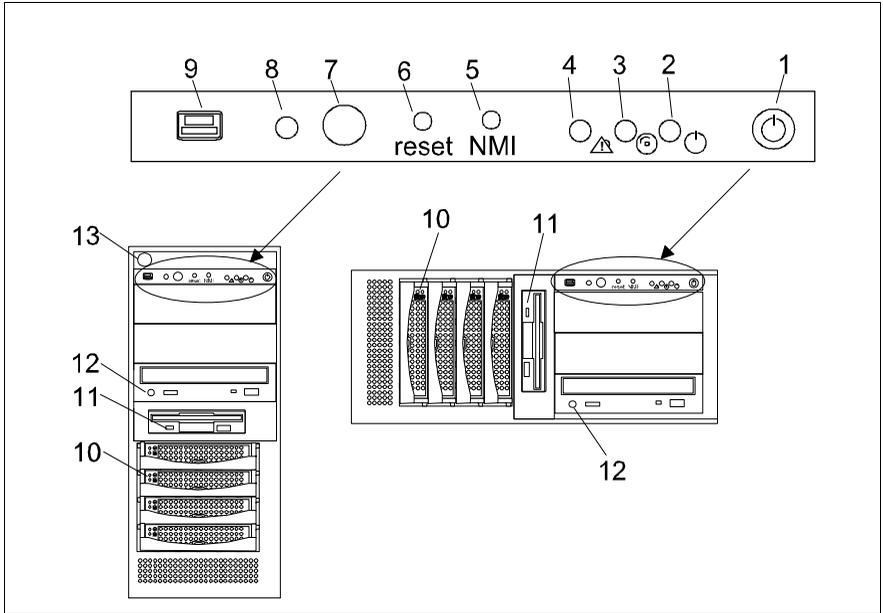

Figure 27: The front
You can find an additional USB port on the front of the server (see figure 27 on page 55).
The power-on indicator (position 2 on figure 27 on page 55) lights orange (standby mode).
- ▶ Press the ON/OFF button (position 1 in figure 27 on page 55).
Power-on indicator (position 2 on figure 27 on page 55) lights green.
- ▶ Press the ON/OFF button (position 1 in figure 27 on page 55) and/or send a corresponding controlling signal (see Other ON/OFF possibilities).